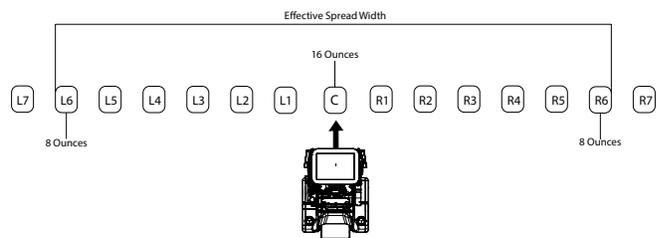

Figure 5-11. Measuring Effective Spread Width Example
- Each pan's material should then be measured and recorded. The effective spread width is determined by taking these measurements and finding which pan on each side has half of what the center pan has. (EX. If the center pan has 16 ounces, and the 6th pan away from the machine on each side has 8 ounces. The effective spread width would be the distance between the outside of the pan with 8 ounces on the left to the outside of the pan with 8 ounces on the right.) See Figure 5-11. If the path is not equal on each side, adjust the diffuser control, and repeat the procedure until the spread pattern is even on each side.